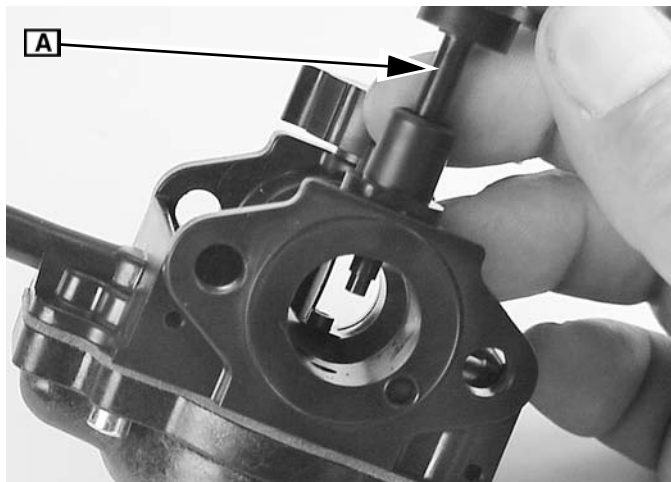

Fig. 53
12. Install the throttle shaft **A** into the carburetor body as shown (Figure 53).